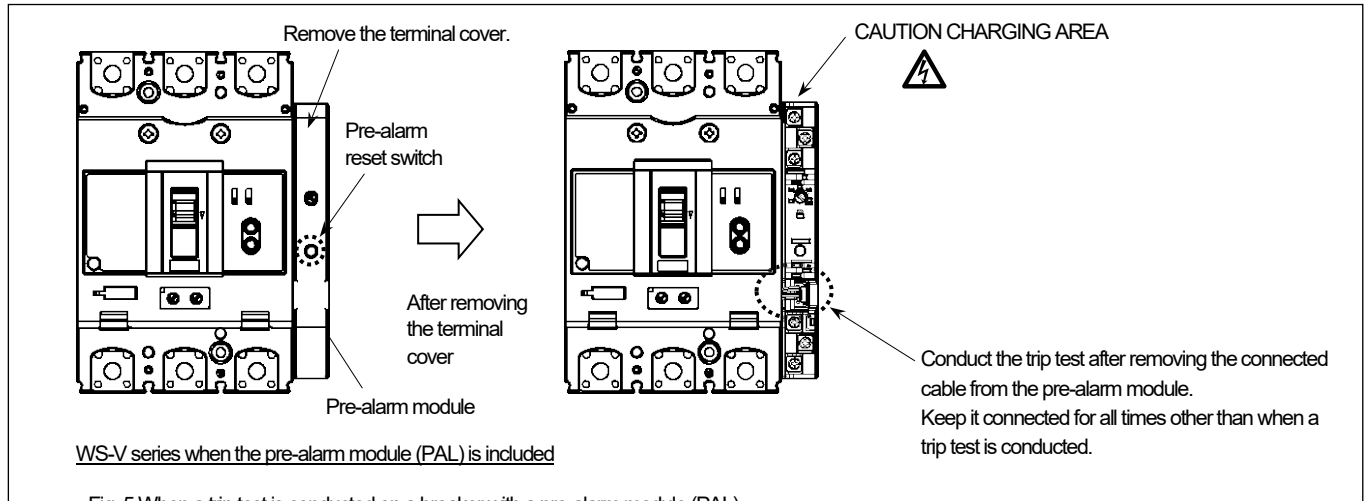

Fig. 5 When a trip test is conducted on a breaker with a pre-alarm module (PAL)
Disconnect the PAL contact relay connector of the test cable when connecting to an insulating relay. (Fig. 5)
(3) Precautions for using a WS-V series circuit breaker
- When conducting a trip test on a circuit breaker with a pre-alarm module (PAL), remove the connection cable between the circuit breaker and the pre-alarm module in advance. The connection cable can be connected/disconnected via the lock connector on the pre-alarm module side. (Fig. 5) (Note 1)
Before conducting a trip test, be sure to remove the connection cable. (Fig. 5) (Note 1)